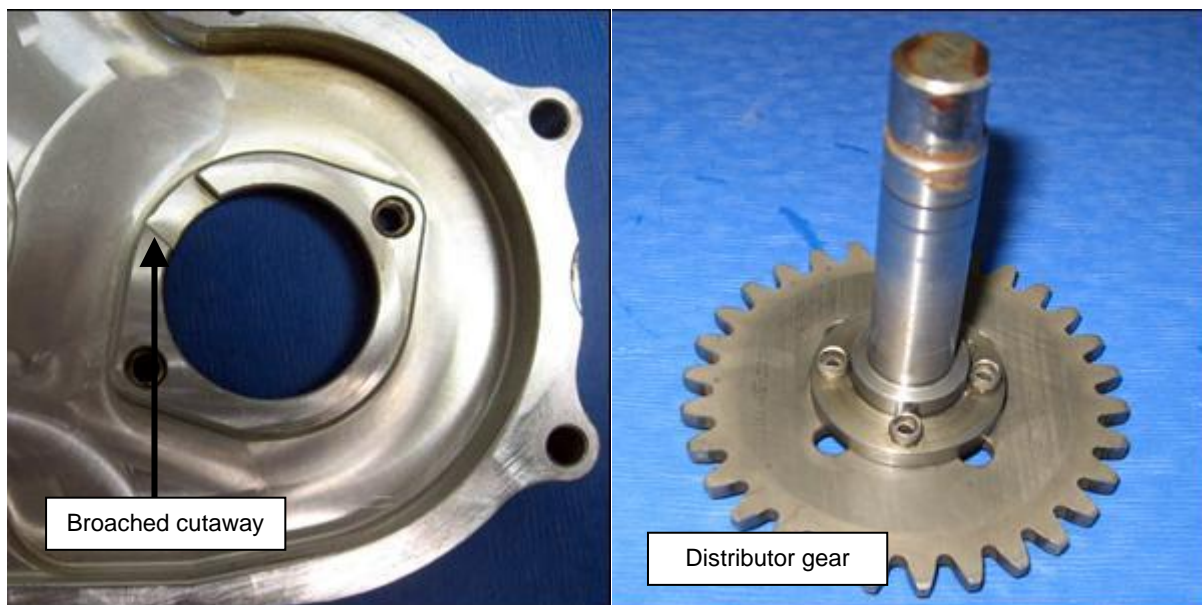

Figure 111 – Distributor Gears & Case
- If deep score marks (from the seal) are present (as shown in Figure 111 – right) the shaft must be replaced.